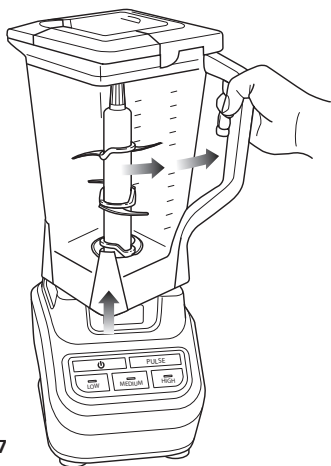

Fig. 7
- 8 To remove the pitcher, press the power button (⏻) to turn the appliance 'Off'. Wait for the blades to stop moving before removing. (Fig. 7)